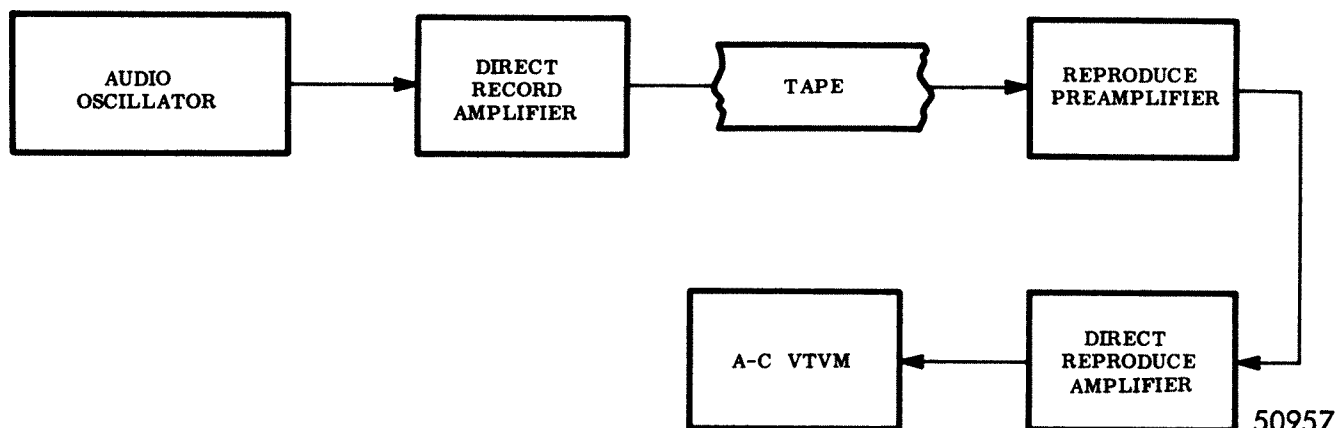

Figure 4-9. Test Set-up, Reproduce Level Adjustment and Frequency Response Check
Step 1: Connect the test equipment as shown in figure 4-9.